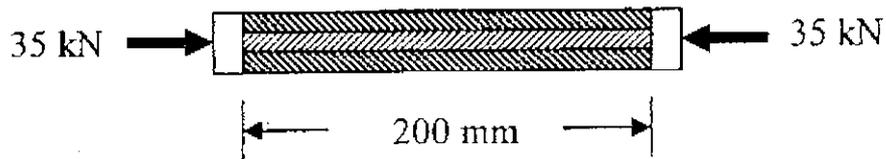

Fig. 2. (Qn. 11(a))
11. (a) A steel flat 24 mm × 6 mm in section riveted between two aluminium flats of same size at a temperature of 288 K is shown in fig. 2. If this assembly is subjected to a compressive force of 35 kN, find the stresses developed in each material. To what temperature the assembly can be raised that the stresses in the materials due to the load are nullified. $E_s = E_{Al} = 210$ GPa. $\alpha_s = 12 \times 10^{-6}/K$ and $\alpha_{Al} = 23 \times 10^{-6}/K$.